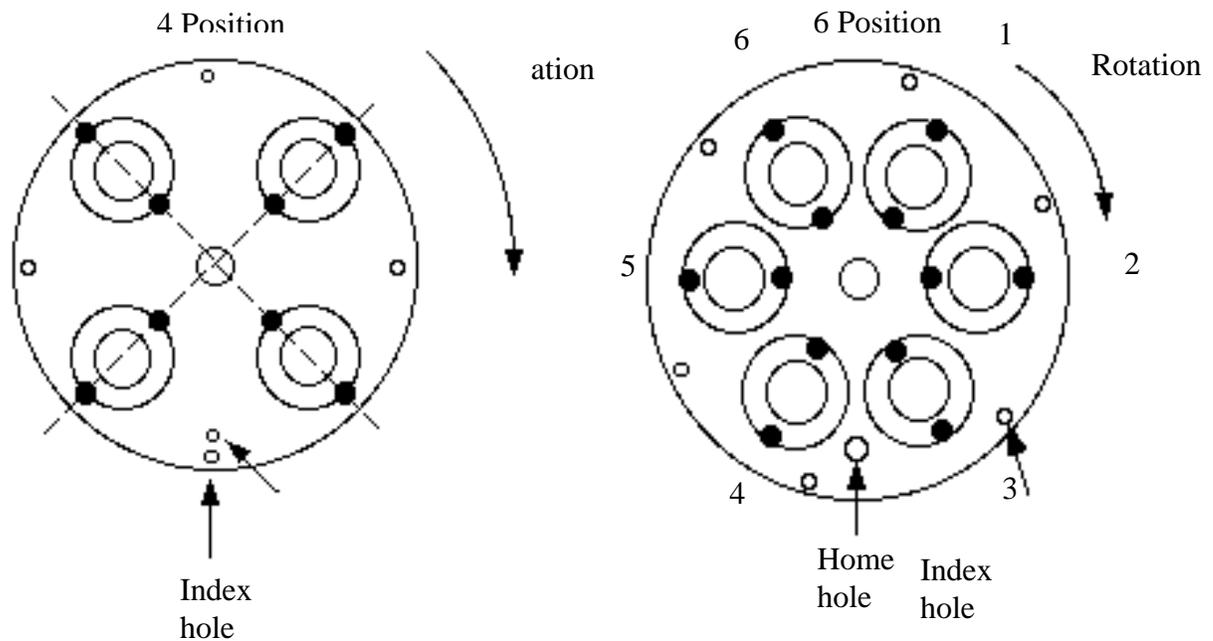

*Figure 10. Filter Replacement*
3. Locate the (3) #6 screws holding the photometer assembly to the chassis. From the bottom of the instrument, remove these screws and washers **while noting the screw lengths and locations from which they were removed.**
4. Refer to Figure 10, Filter Replacement. Remove the four 6-32 screws retaining the photometer cover. Set the photometer cover aside.
7. Refer to Figure 11. Locate the filter to be removed. There are currently two means of filter retention in field use; silicone glue or a Retaining Ring. Refer to Figure 10 and determine if a Retaining Ring is used. If a Retaining Ring is used, carefully pry two to three of the retaining ring teeth away from the filter until the ring is dislodged and remove the ring and filter. If silicone glue is present, remove the silicone and push the filter out of the wheel using the eraser end of a pencil or other soft blunt object and the glue should release. Remove any remaining filter components from that position in the wheel.
13. Install the photometer subassembly to the chassis by replacing the (3) #6 self tap screws through the chassis base **in their original locations**. Line up photometer with locating marks made in step 2. Connect the (2) cables removed in step 1.
14. Attach the power cord and connect the instrument to the mains supply. Set the power switch to ON (1). Insert a borosilicate tube filled with plain water into the read well. Do not use a soda-lime glass tube, since it does not transmit at 340 nm. Select test #186. The instrument prints the detected voltage for each filters. All voltages should now be between 2 and 10 volts. If not, check lamp alignment. If the lamp alignment is properly set, the neutral density filters may need to be changed. Add neutrals to lower the voltage. Remove neutrals to increase the voltage.